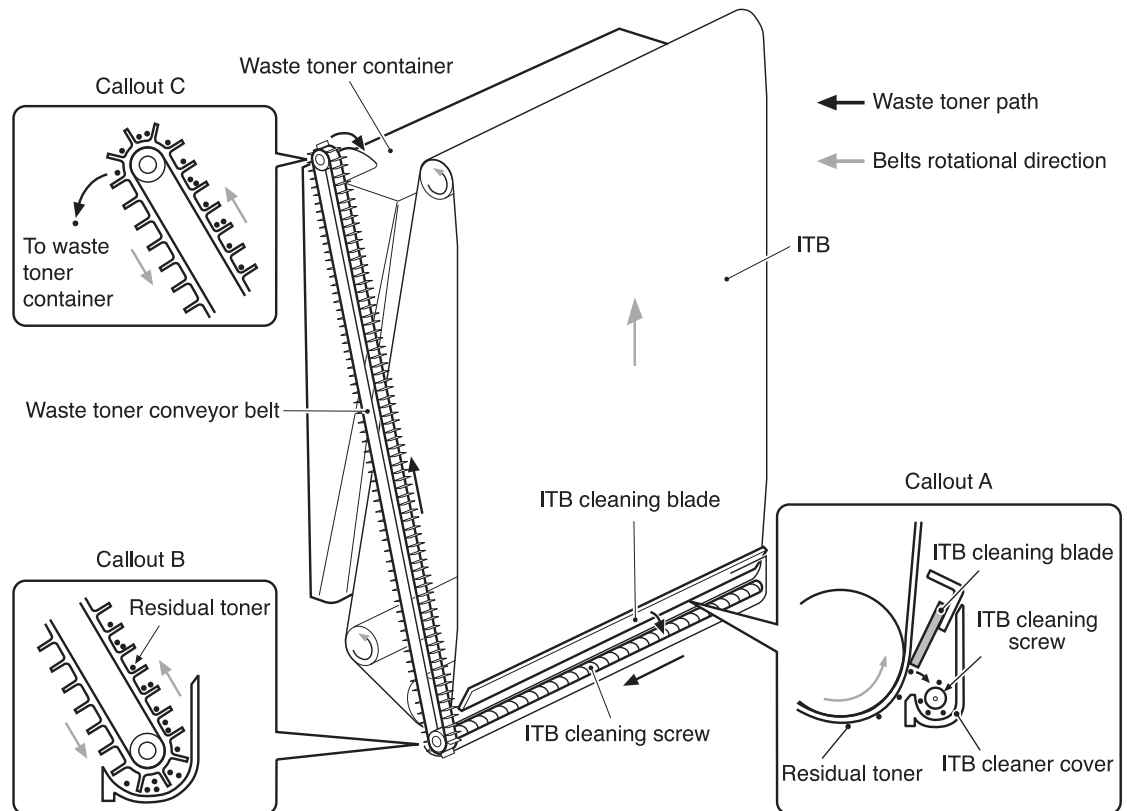

Figure 5-45. ITB cleaning control
1. The cleaning blade on the ITB is always in contact with the ITB and scraping the residual toner off the ITB. (See callout A in figure Figure 5-45. ITB cleaning control, below.)
3. The waste toner is delivered to the waste toner container, sitting inside the ribs of the conveyor during transfer. (See callouts B and C in figure Figure 5-45. ITB cleaning control, below.)